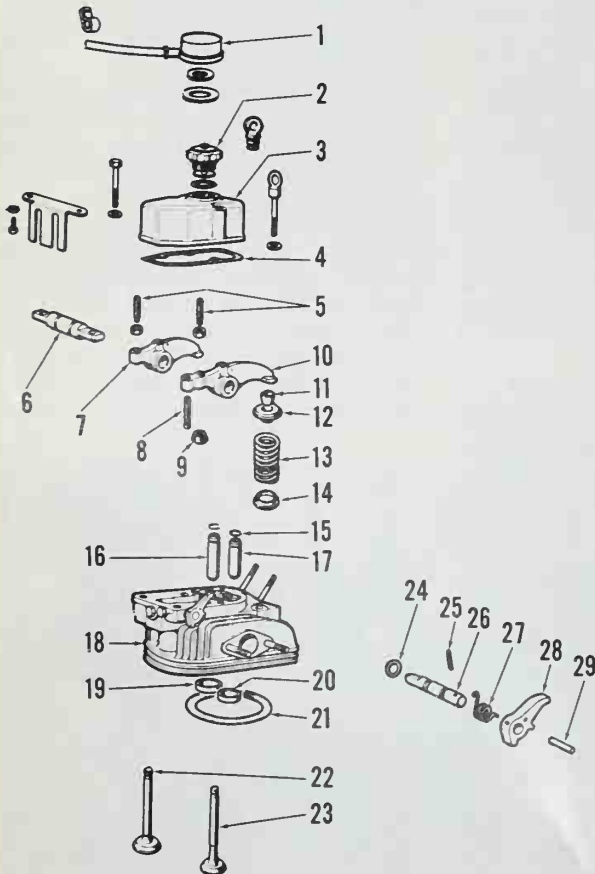

Fig. L1-8 — Exploded view of cylinder head assembly.
Diameter of compression release shaft (26—Fig. L1-8) is 9.37-10.00 mm while lobe height is 8.45-8.50 mm.
Valve face angle is 45 degrees and minimum valve head margin is 0.5 mm. Valve seat angle is 45 degrees with a seat width of 1.4-1.6 mm. Valve seats are renewable and must be installed with head heated to 160°-180° C (320°-356° F). Valve seals are used on intake valves. Valve stem diameter is 6.98-7.00 mm while valve guide diameter is 7.03-7.05 mm. Desired valve stem clearance is 0.03-0.07 mm. Valve guides are renewable and oversize valve guide is bronze. Note locating ring (15—Fig. L1-8) around top of each guide. The cylinder head should be heated to 160°-180° C (320°-356° F) when installing valve guides.
Some models are equipped with a manual compression release so the exhaust valve may be held open to aid starting. Compression release components (24 through 29—Fig. L1-8) are mounted in the cylinder head. Rotating shaft (26) will force the exhaust rocker arm (10) to slightly open the exhaust valve.